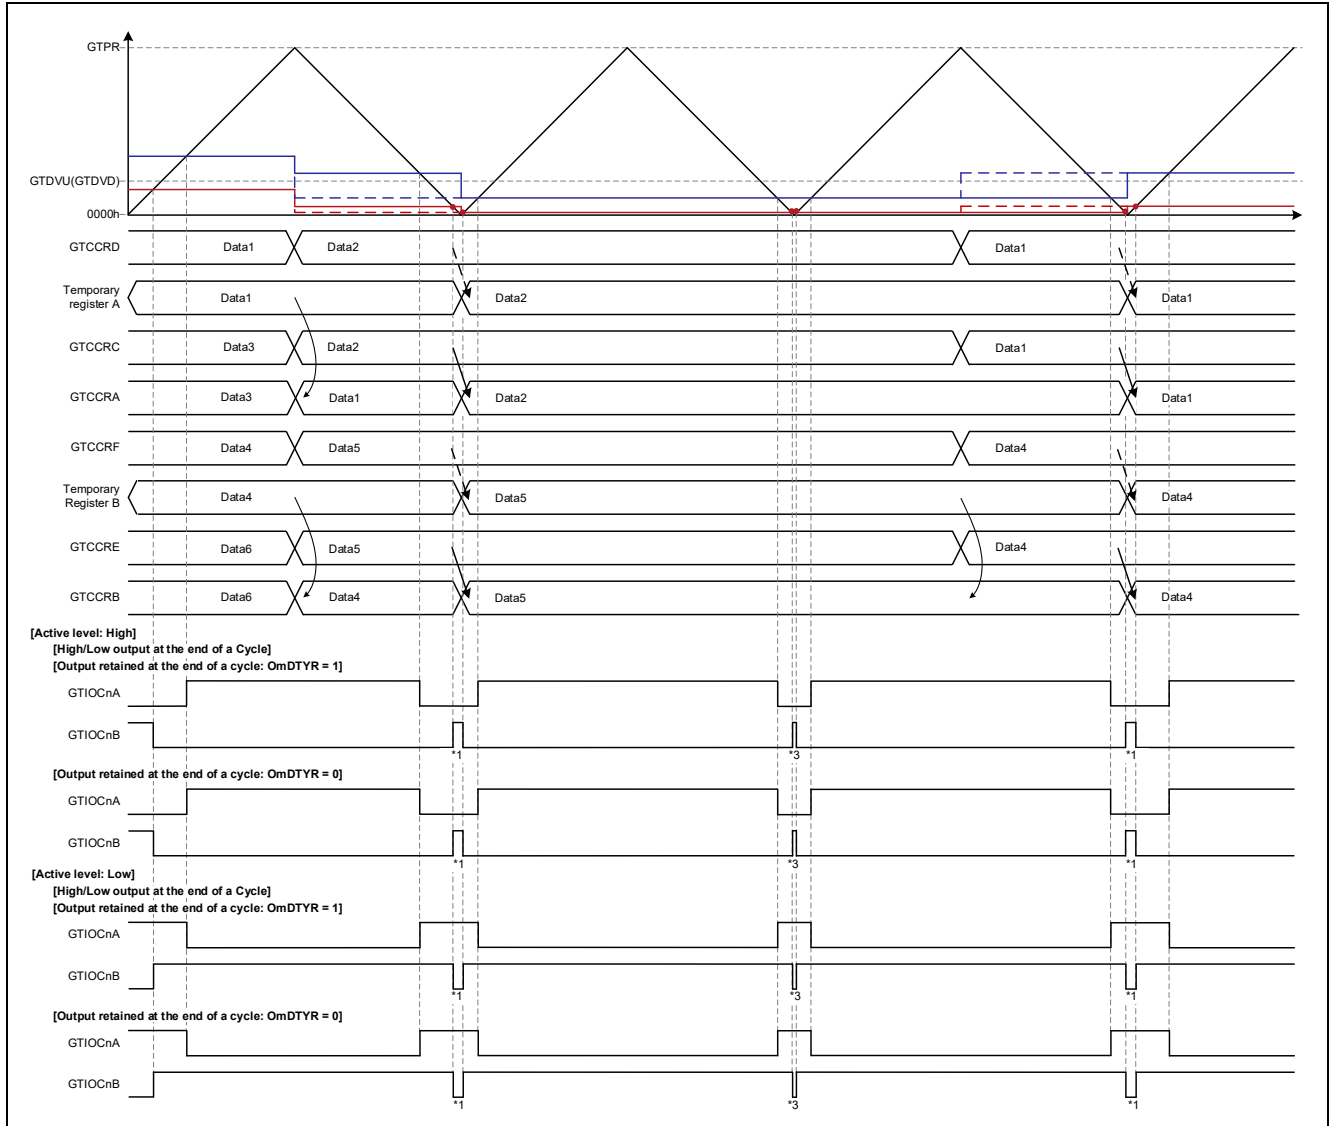

Figure 1.71 Triangle-Wave PWM Mode 3 Operation Example
Figure 1.66 to Figure 1.71 illustrate the GPTW operating modes and cautions listed in Table 1.10.
- [Operation example 6] Figure 1.71, Triangle-Wave PWM Mode 3, Output Start: Trough, Automatic Dead Time Setting Disabled, cautions 1 and 3
Figure 1.71 shows an operation example with automatic dead time setting function disabled in triangle-wave PWM mode 3. Except for the difference in the buffer operation in the various modes, the operation is the same as that shown in Figure 1.69.